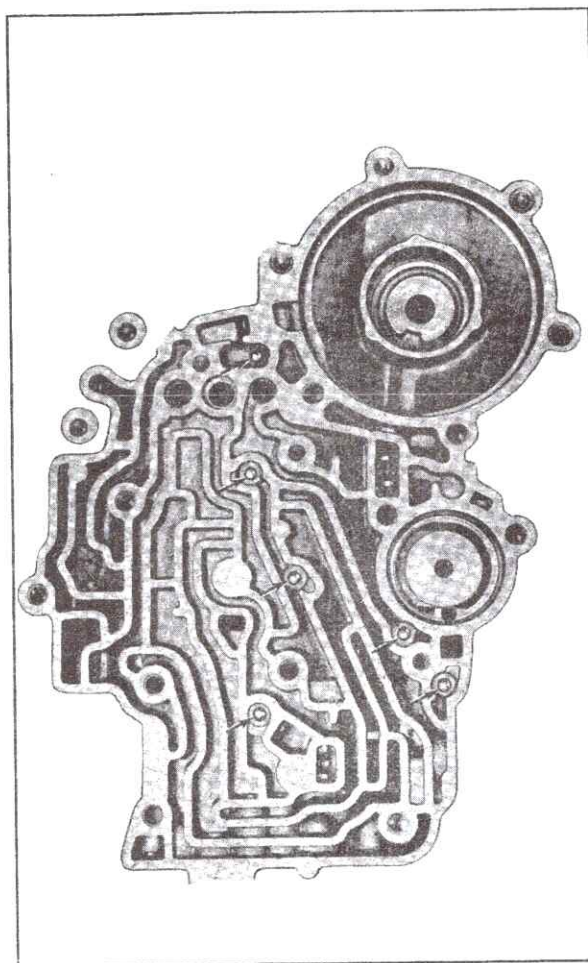

Fig. 7-101 Location of Check Balls
5. Install six check balls into ball seat pockets in transmission case, Fig. 7-101.